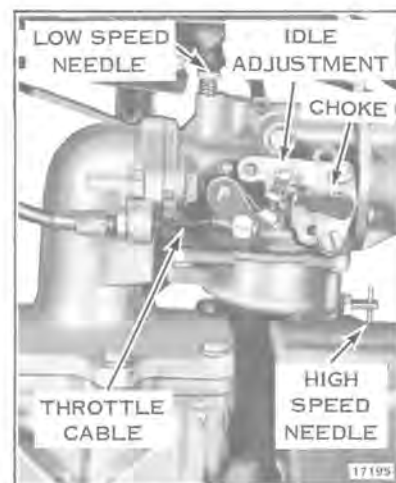

Figure 6-3
- Remove throttle cable using the following procedure: Depress thumb throttle lever. Hold throttle in open position. Slip end of throttle cable through nylon pivot pin. Loosen jam nut on intake manifold and turn cable fitting out of manifold. See Figure 6-3.
- a. Remove low-speed needle valve (1) from carburetor. See Figures 6-3 and 6-4.
- b. Remove high-speed needle valve (2) from carburetor.
- c. Remove four screws (3) attaching float chamber (4) to carburetor body (5). Remove float chamber and gasket (6). Remove nylon hinge pin (7) to permit removal of float (8) assembly.
- d. Remove float valve (9), float valve seat (10), and gasket (11) assembly from carburetor body.